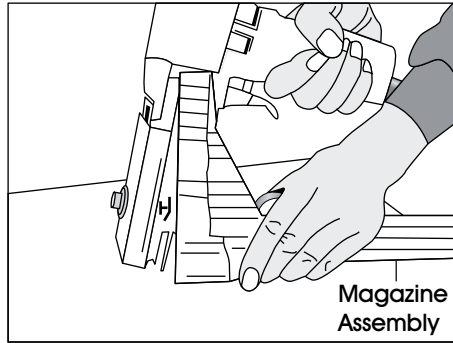

Figure 22
2. Remove the magazine assembly. (See Figure 22)